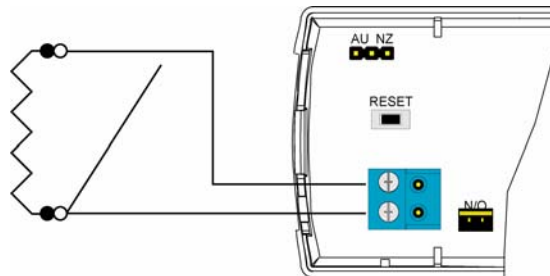

Figure 2 Wired for N/O operation
2. Wire the 2.2K ohm resistor in parallel with the N/O contact per Figure 2.